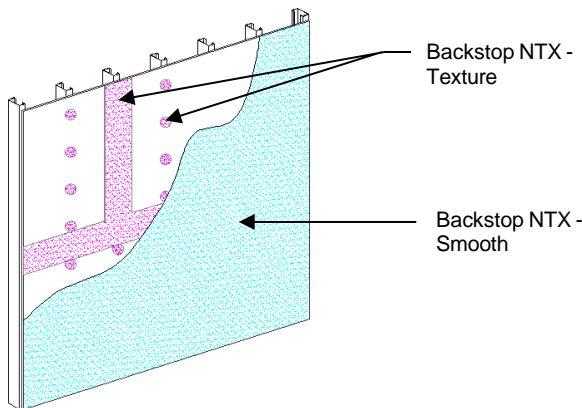

Figure 5
1) Backstop NTX Smooth material should be applied in a uniform, continuous film at the recommended coverage rate free of voids and pinholes – Figure 5. **NOTE: Sheathing substrates with a surface texture or high porosity will require additional material.**